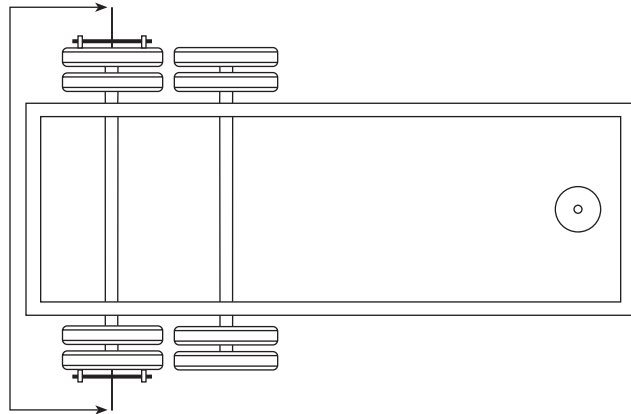

Figure 27. Measuring target value
- a. Measure the point-to-point width of the installed wheel end extenders (figure 27).